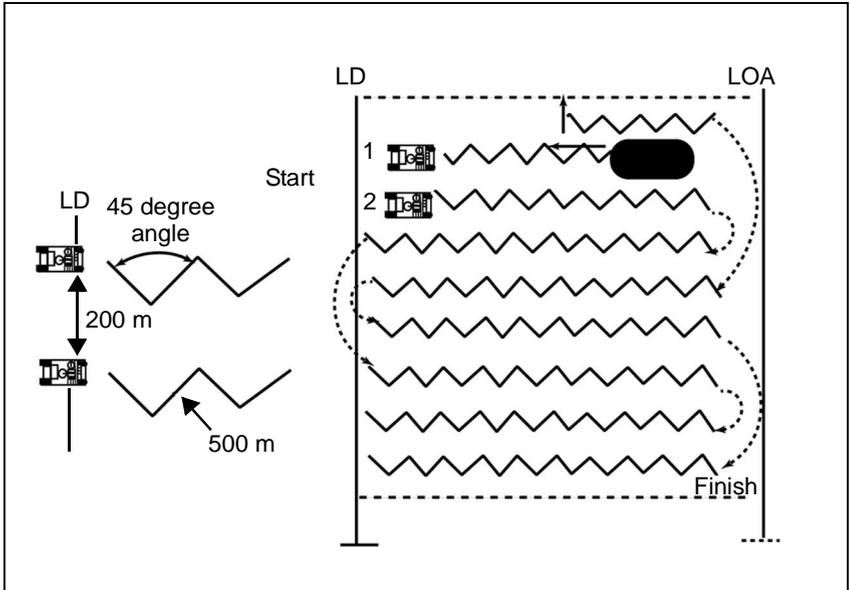

Figure 03-3-D0B18-1
3. The vehicle commander verifies each boundary (north, south, east, and west) for the specific area of interest according to the operation order (OPORD). See *Figure 03-3-DOB18-1*.